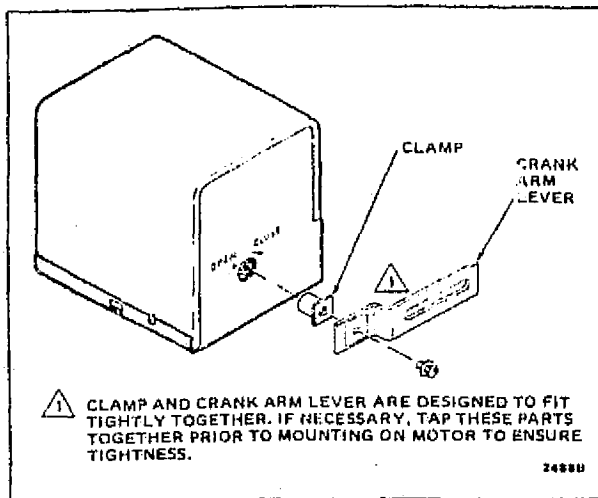

FIG. 5—EXPLODED VIEW SHOWING HOW TO MOUNT 7640JL CRANK ARM ASSEMBLY TO MOTOR.
3. 7640JL Bag Assembly-clamp and crank arm lever (for crank arm drive). Refer to Figs. 5 and 6.